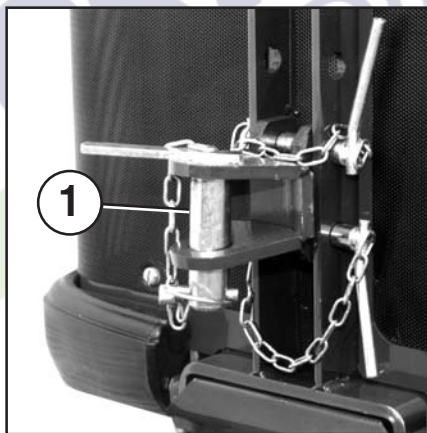

Fig. 7
- On front side (optional), fixed pin tow-hook (1 Fig. 7) only for machine towing.
- In case machines need to be towed, use special fittings applied only on hitches (Fig. 7 - 8 - 9).